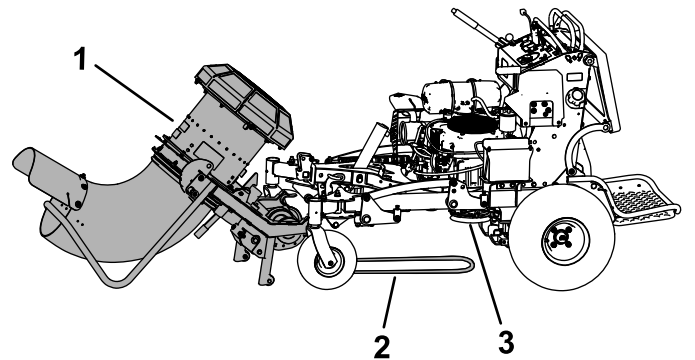

Figure 12
12. Move the blower in front of the machine and lay the belt underneath the machine so that it is lined up with the clutch (Figure 12).